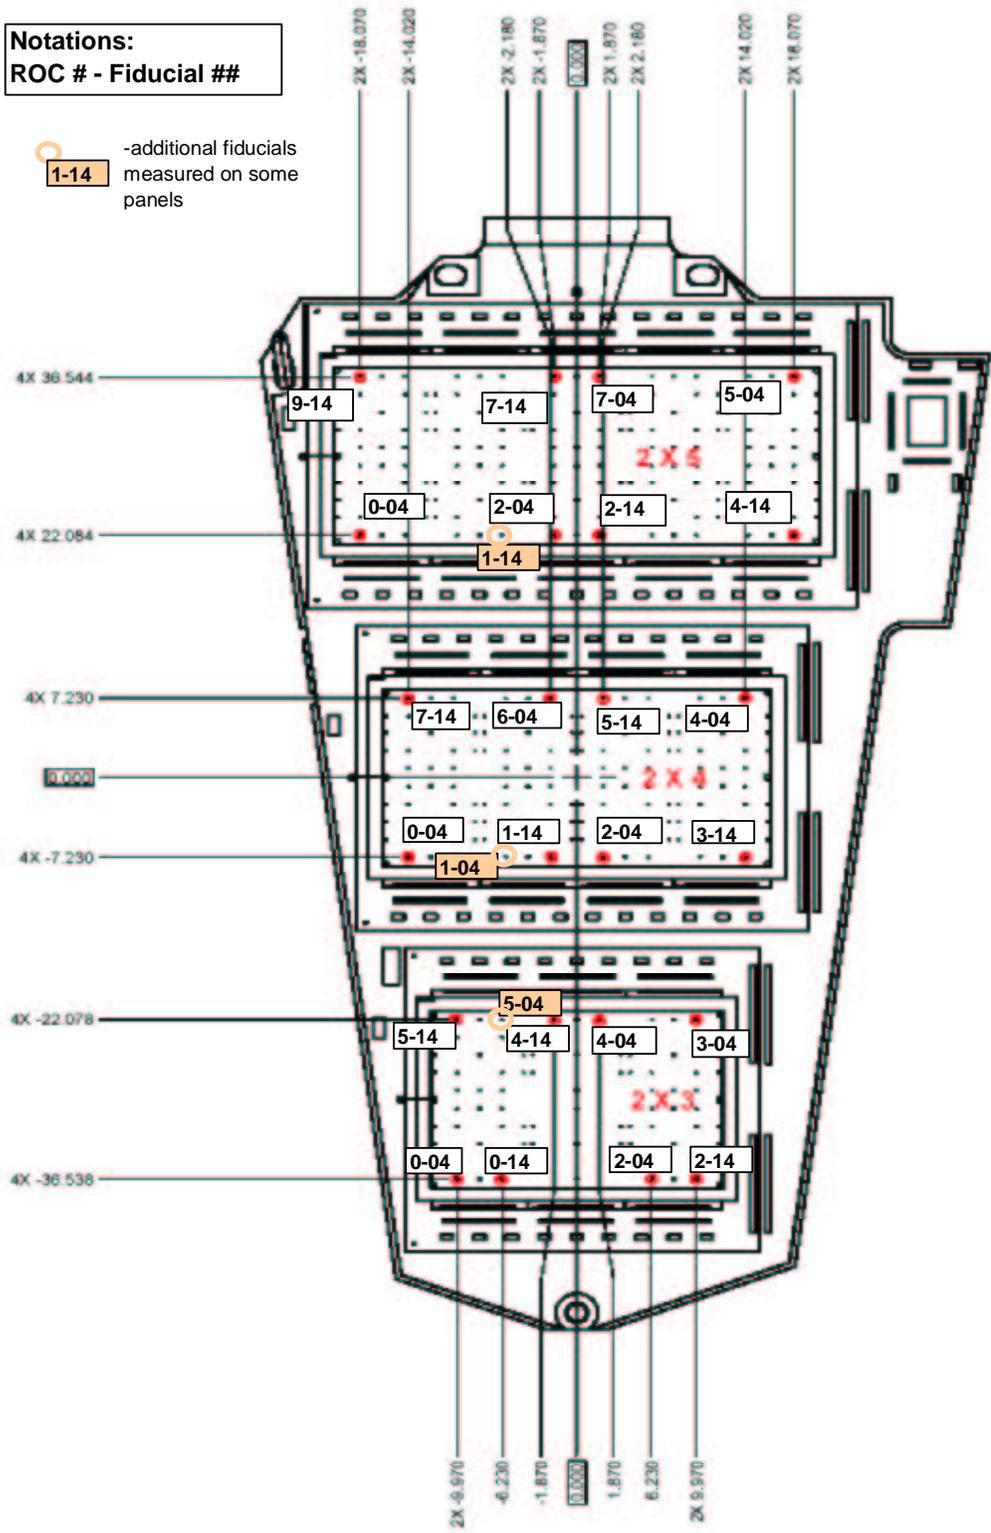

Fig. 2 Pattern of measured fiducials on the panels (except Panel #6). Additional fiducials measured on the half-disk are shown
3. Panels #2,8,9,10,11 are overlapped by TBM wing and measured with changed pattern of 4 fiducials on the 2x3 and 2x4 plaquettes and 2 fiducials on the 2x5 plaquette (see Fig. 2).